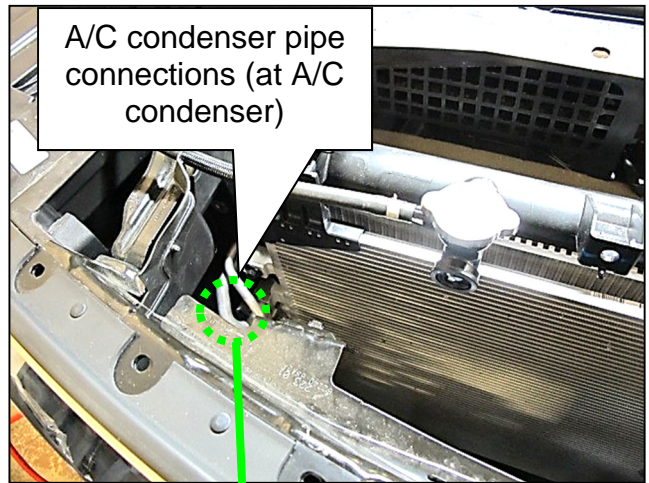

Figure 8
8. Locate the A/C condenser pipe connections at the A/C condenser (Figure 8).